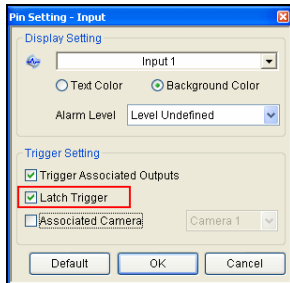

Figure 4-51
2. In the dialog box (Figure 4-51), enable the **Associated Camera** option, and then assign a camera from the drop-down list.